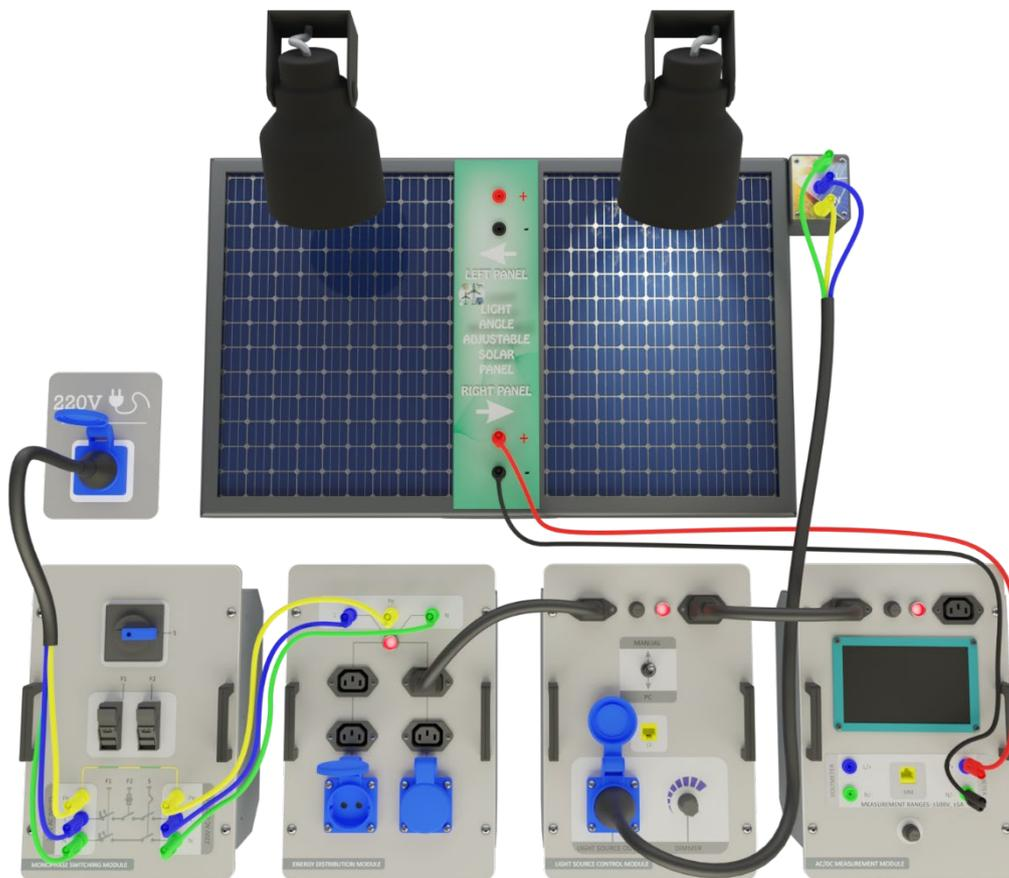

Figure-31. Installation Image of PV Panel Open Circuit Voltage Measurement Experiment
2. Set up the connections as specified in Figure-31. Ensure a consistent level of light in the laboratory to create an average scenario. Any changes to the positions of the lamps or curtains may affect the experimental outcomes.
5. Set up the connections as specified in Figure-31. Ensure a consistent level of light in the laboratory to create an average scenario. Any changes to the positions of the lamps or curtains may affect the experimental outcomes.